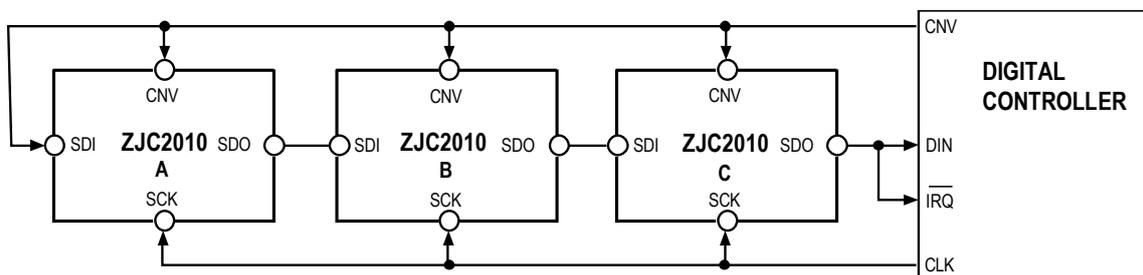
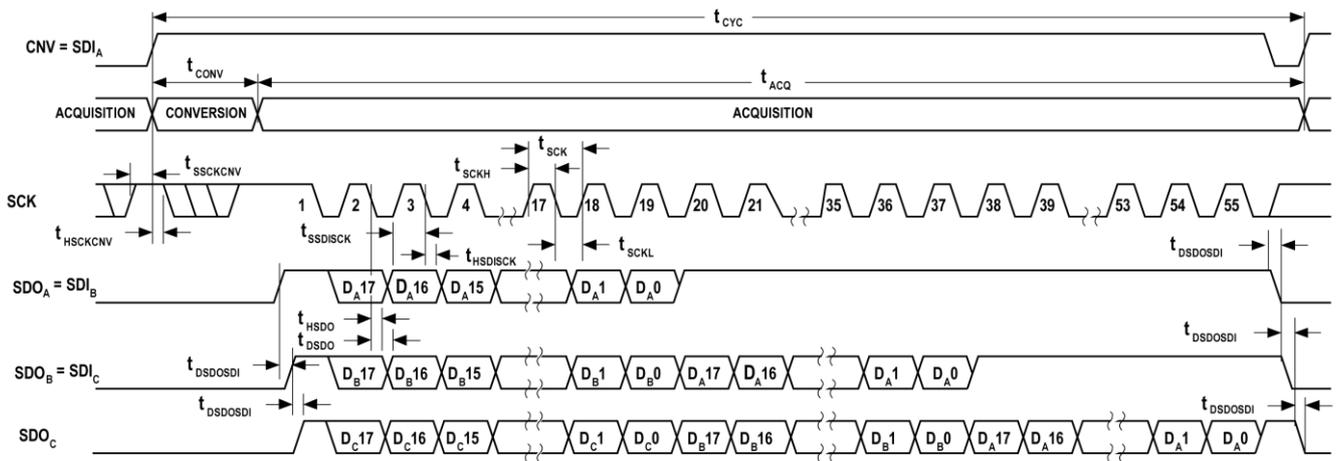

Figure 48. Chain Mode (with Busy Indication) Connection Diagram
Figure 49. Chain Mode (with Busy Indication) Serial Interface Timing
- In chain mode, SCK is high during the rising edge of CNV (see Figure 49).
An example using three ZJC2010s is shown in Figure 48, and the corresponding timing is shown in Figure 49.
When SDI and CNV are low, SDO goes low. With SCK high, a rising edge on CNV initiates a conversion, selects chain mode, and enables the busy indicator feature. In this mode, CNV remains high during the conversion phase and subsequent data readback. After all the ADCs in the chain have completed their conversions, drive the SDO pin of the ADC closest to the digital host (see Figure 48). This transition on SDO can be used as a busy indicator to trigger data readback. ZJC2010 then enters the acquisition phase and is on stand-by. The remaining data bits stored in the internal shift register are clocked out MSB first on subsequent SCK falling edges. For each ADC, SDI feeds the input of the internal shift register and is clocked out by SCK falling edge. Each ADC in the chain outputs data MSB first, and 18×N + 1 clocks are required to read back N ADCs.